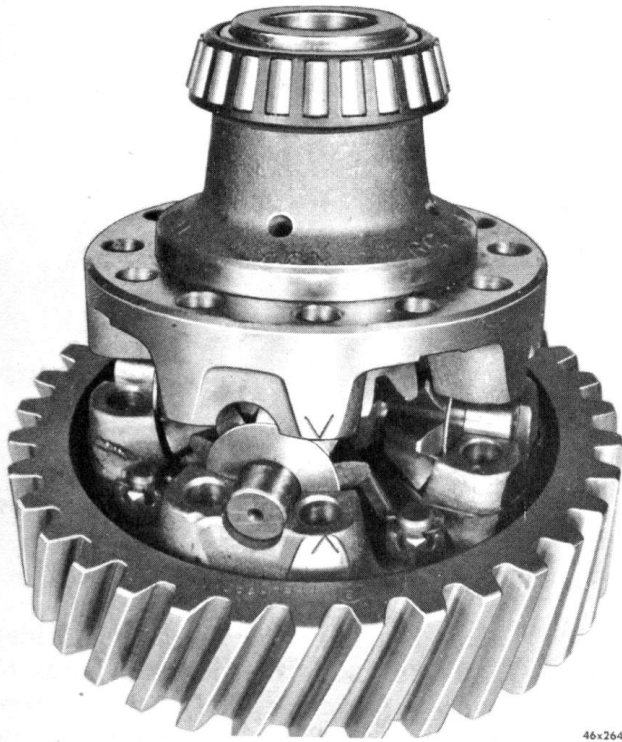

Fig. 131—Aligning Differential Mating Marks
- (1) Join spur gear to either differential case half with short bolts.
- (2) Lubricate differential case inner walls and all component parts with axle lubricant.
- (3) Install thrust washer and side gear in one of the case halves. Place spider with pinions and thrust washers in position. Install component side gear and thrust washer.
- (4) Align mating marks (Fig. 131), position component case half and draw assembly together with four long bolts (equally spaced).
- (5) Check assembly for free rotation of differential gears and correct if necessary.
- (6) Install remaining bolts and tighten to the correct torque.
- (7) Install lock wire.
- (8) Press differential bearings squarely and firmly on differential case halves.